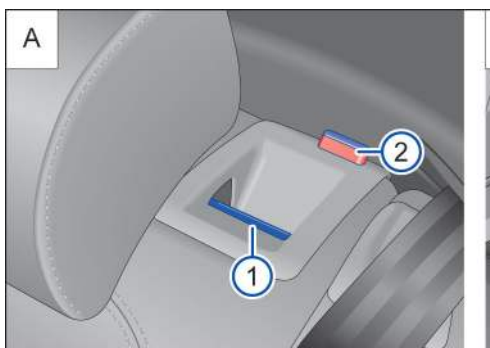

Fig. 69 **A:** Rear seat backrest: Release button ① and red mark on the indicator ②. **B:** Seat backrest folded forward.
- Pull the release button → fig. 69 ① forward to release the rear seat backrest.
The rear seat backrest is unlocked if the red mark → fig. 69 ② can be seen on the indicator.
- Fold the rear seat backrest back until it latches securely → ⚠️. The red mark on the indicator → fig. 69 ② should no longer be visible.
- If the red mark on the indicator → fig. 69 ② is visible, this indicates that the backrest is not latched into place. Always check to make sure that the red mark is not visible whenever the rear seat backrest is in the upright position.